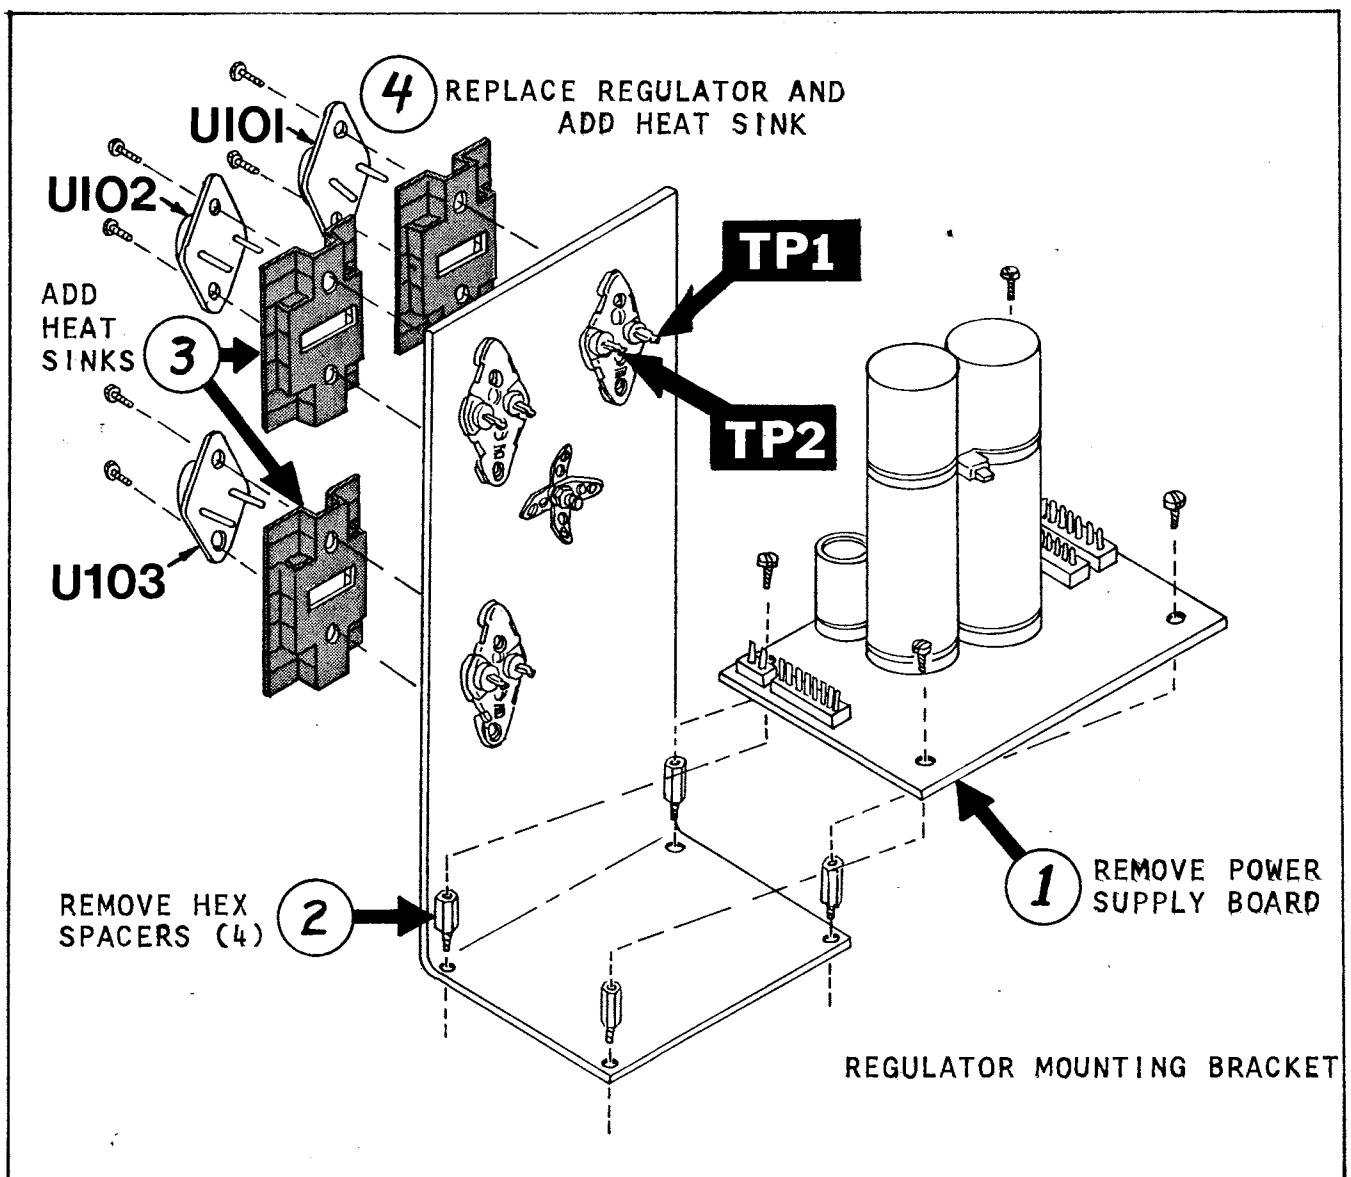

FIG. 1-2 HEAT SINK UPGRADE
Two different heat sink assemblies have been used in H/Z89s. The older assembly is less reliable and should be upgraded. To see which version you have, look at the heat sink assembly in the rear right-hand corner of the cabinet. If it has the black finned heatsinks and a 78H05 regulator at U101 (fig. 1-2) then you have the new assembly; skip ahead to section 1.07. Otherwise, perform the following steps to upgrade the heat sink assembly.
- () Re-install U102 with a finned heatsink between the regulator and bracket as shown in fig. 1-2. Use the original mounting screws.
- () Similarly, install a finned heatsink at U103 (fig. 1-2).
- () If you have a DC voltmeter, set it to measure +5 volts DC. Connect the negative lead to the regulator mounting bracket, and the positive lead to test point TP1 (see fig. 1-2).